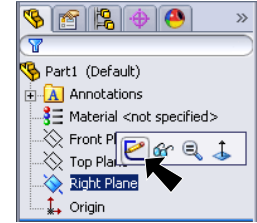

Fig. 1
- Step 2. Click **Right Plane**  in the Feature Manager and click **Sketch**  from the Content toolbar, **Fig. 1**.